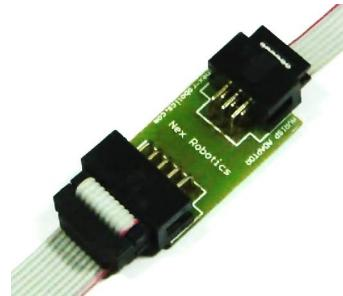

Figure 2.45: In System Programming
1. AVRISP mkII use 6 pin FRC connector for ISP, while Fire Bird V robot uses 10 pin FRC connector for programming. We need to use AVRISP adaptor to convert 6 pin to 10 pin connector. Figure 2.45 shows the 6 to 10 pin converter for the In System Programming.